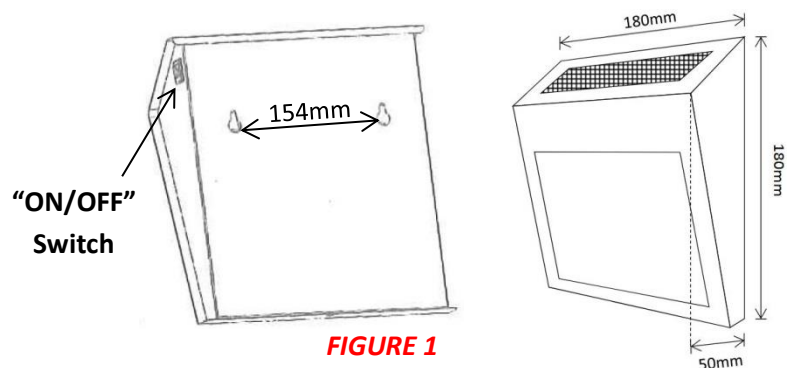

FIGURE 1
- Locate the **"ON/OFF"** switch and turn light on by setting the (I, O) switch on the side of your fitting to (I) (**FIGURE 1**)
Step 2. Drill 2 holes of 8mm diameter in the wall 154mm apart from one another (**FIGURE 1**)